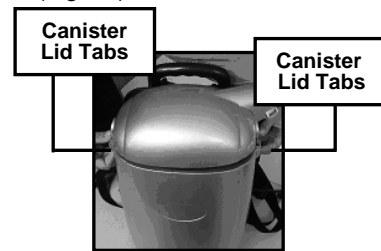

Fig. 22
- To remove the HEPA dust bag, press on the canister lid tabs on each side of the unit and lift canister lid. (Fig. 22)
- Pull the tab on the HEPA dust bag holder out slightly and flip upwards. (Fig. 22)